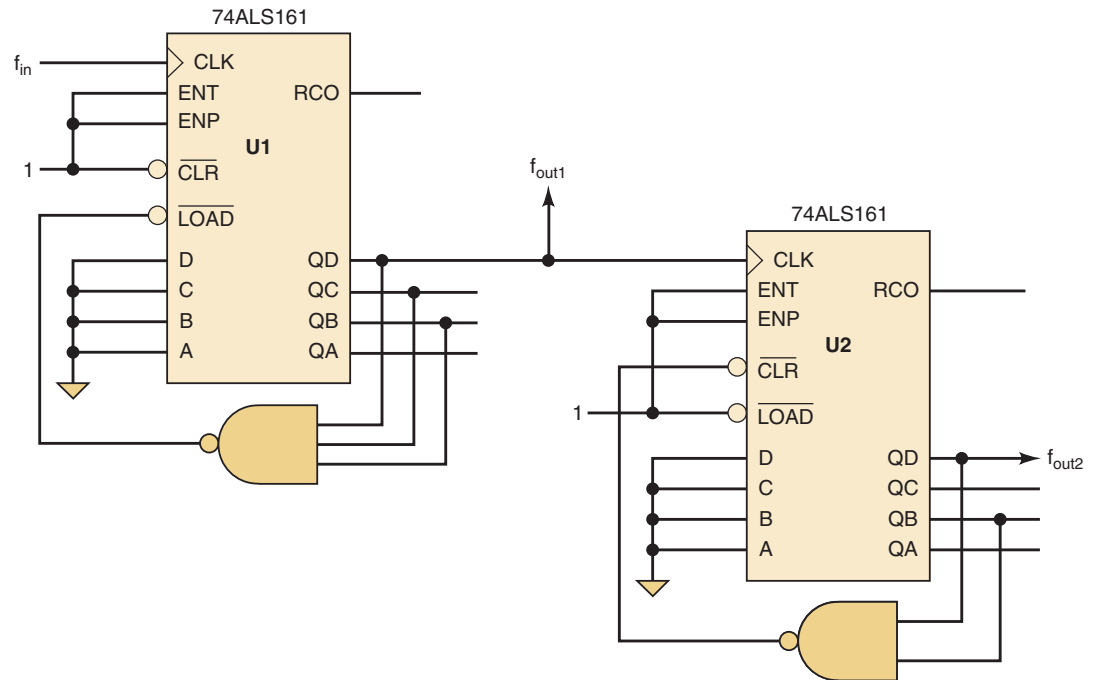

FIGURE 7-109 Problem 7-32.
- B** 7-32. The frequency of f_{in} is 1.5 MHz in Figure 7-109. The two IC counter chips have been cascaded asynchronously so that the output frequency produced by counter U1 is the input frequency for counter U2. Determine the output frequency for f_{out1} and f_{out2} .